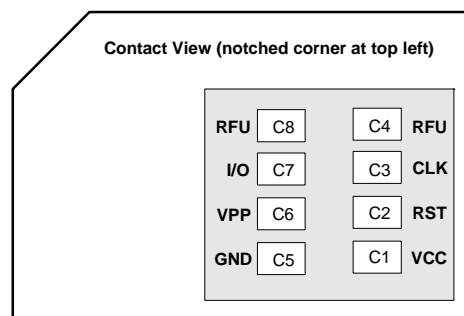

Figure 3-4: SIM card contacts (contact view)
1. See Figure 3-4 on page 32 for SIM card contacts.